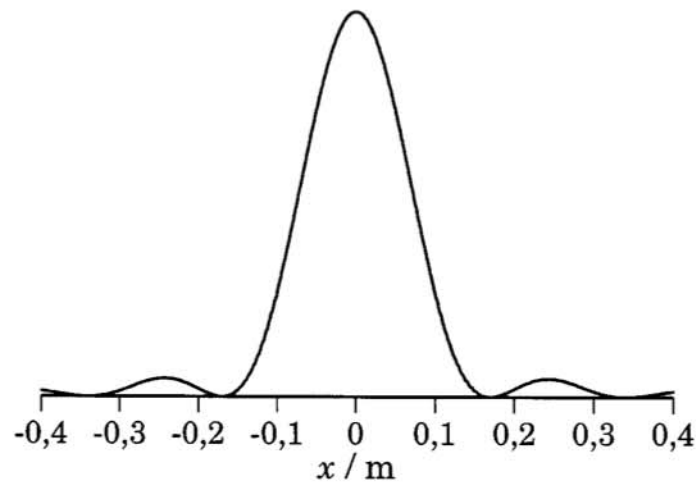

Figure 1. Light intensity distribution on a screen after diffraction in a slit.
2. The light from a mercury lamp passes a filter where all wavelengths except 546.1 nm are absorbed. The light passing the filter is made parallel using a lens and then sent through a single slit. The diffraction pattern is studied on a screen 7.00 m from the slit, see figure 1. Use the intensity profile to determine the width a of the slit as accurately as possible.